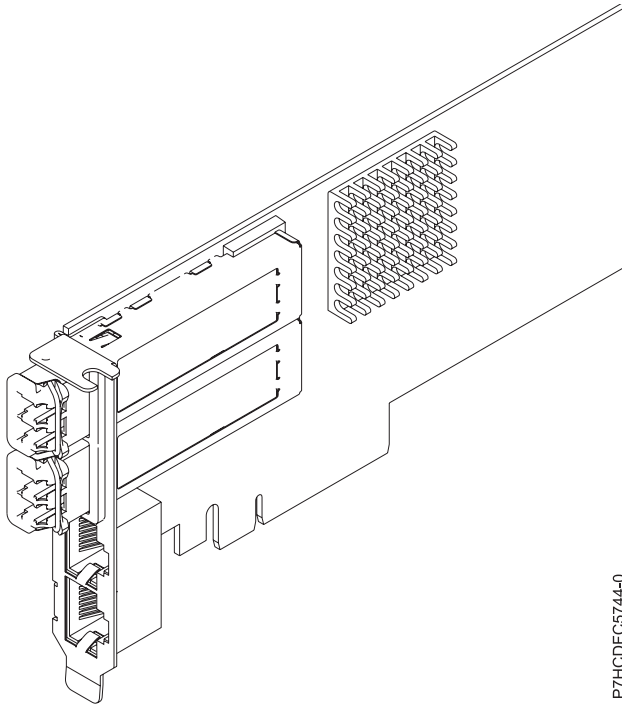

Figure 35. PCIe2 2x10GbE SR 2x1GbE UTP Adapter
The PCIe2 2x10GbE SR 2x1GbE UTP adapter is a PCI Express generation-2, four-port Ethernet unified wire adapter with a PCI Express 2.0 host bus interface. The adapter is optimized for cloud computing, virtualization, storage, and other data center applications. The four port adapter provides two 10 Gb Ethernet ports and two 1 Gb Ethernet ports. The two 10 Gb small form-factor pluggable (SFP+) single root (SR) transceiver ports are used for connectivity with other servers or switches in the network. Each SFP+ (SR) port provides Ethernet connectivity with a nominal data rate of 10 Gbps (gigabits per second), and uses the SFP+ copper twinaxial cables up to 5 m (16.4 ft) in length. Each of the RJ45 ports provides Ethernet connectivity at a data rate of 1 Gbps. The link aggregation and failover features of the adapter are ideal for critical network applications that require redundancy and high availability. Figure 35 on page 119 shows the FC 5745 adapter.